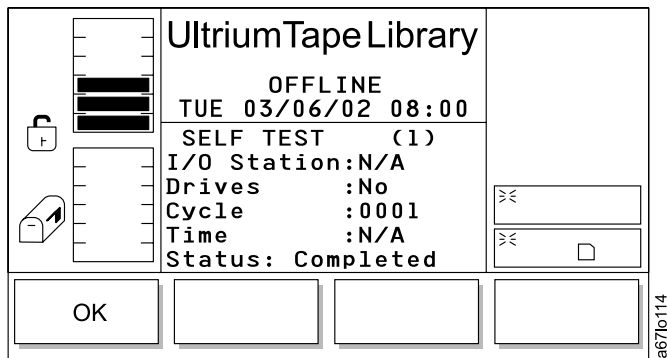

Figure 186. Self Test Execution Dialog
- If **OK** is selected, the field values are applied and the self test operation begins. After the cycles have run, the Self Test Execution Dialog displays the results (see Figure 186).